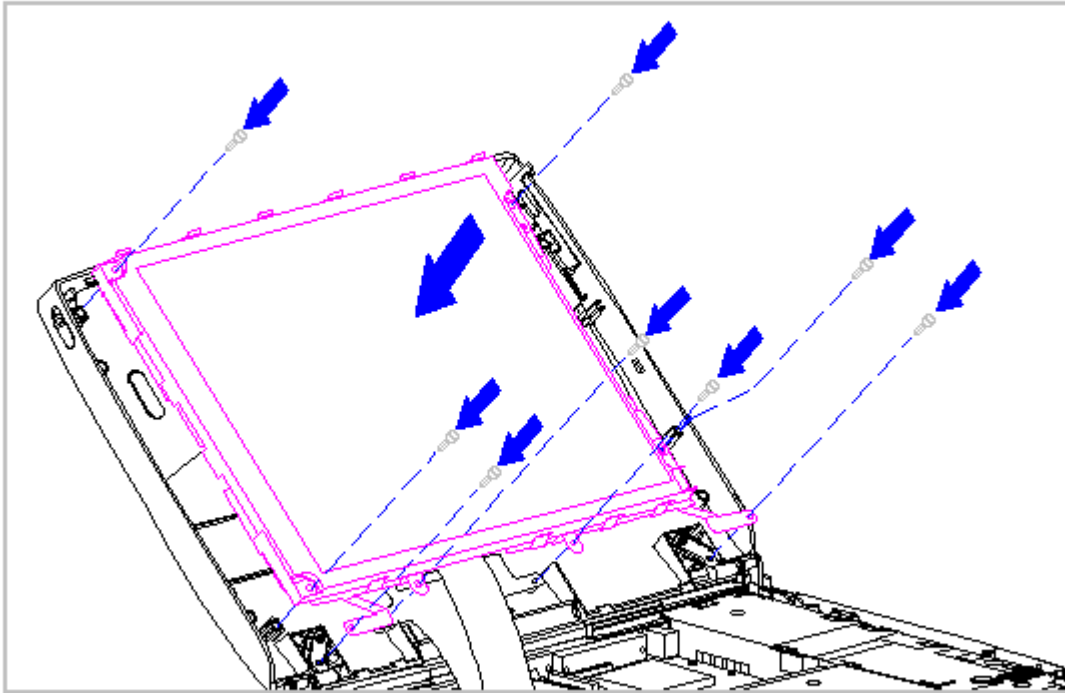

Figure 3-155. Replacing the CSTN (10.4 inch) Panel and the Display Shield (Models 420 and 430)
6. Align the CSTN (10.4 inch) panel, display cable, and shield in the display enclosure and replace the screws. Ensure that the ZIF connector end of the display cable and the end of the display ground cable are exposed at the bottom of the display enclosure (Figure 3-155).